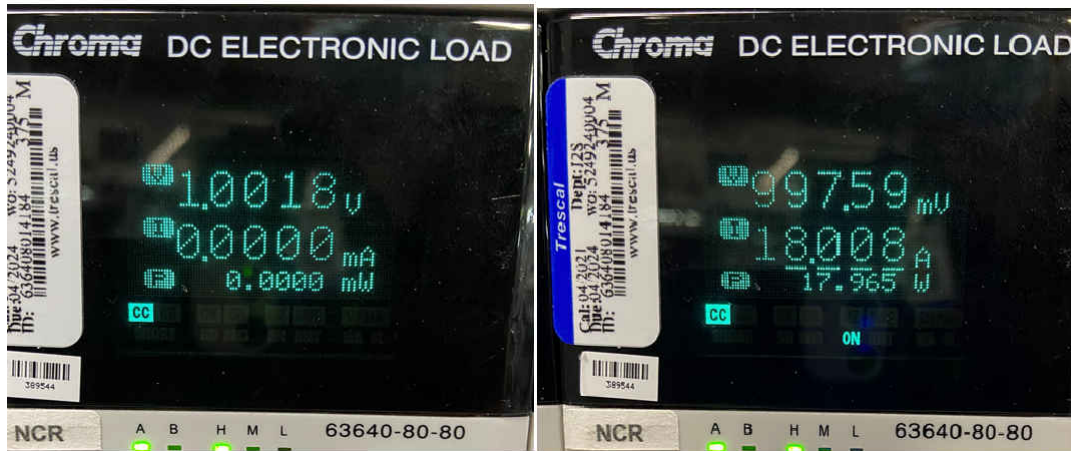

Figure 4-1. Output Voltage Regulation
2. Turn on the e-load and sweep load current from 0 A to 18 A. The monitored output voltage at TP12 (VOUT) is at or near 1.0 V across the entire current load sweep as shown in Figure 4-1.